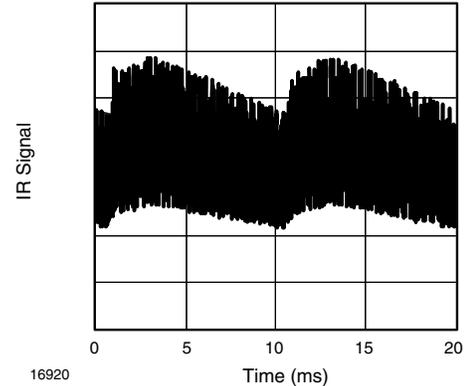
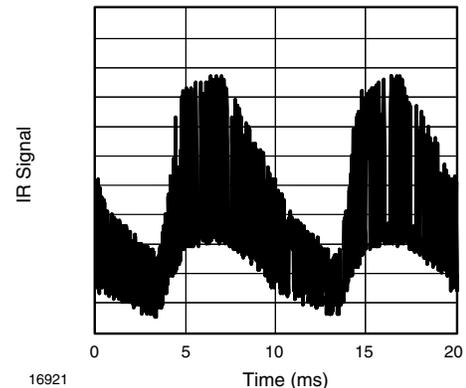

Fig. 13 - IR Disturbance from Fluorescent Lamp with Low Modulation
Fig. 14 - IR Disturbance from Fluorescent Lamp with High Modulation
- Strongly or weakly modulated patterns from fluorescent lamps with electronic ballasts (see Fig. 13 or Fig. 14).